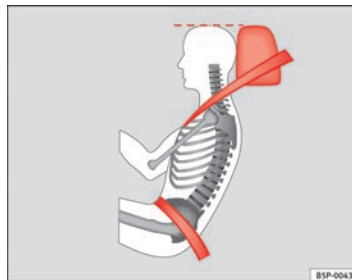

Fig. 13 Correct seat belt and head restraint positions, viewed from side
- The lap part of the seat belt must lie across the pelvis, never across the stomach. The seat belt must lie flat and snugly on the pelvis ⇒ page 23, fig. 13. Pull the belt tight if necessary to take up any slack.